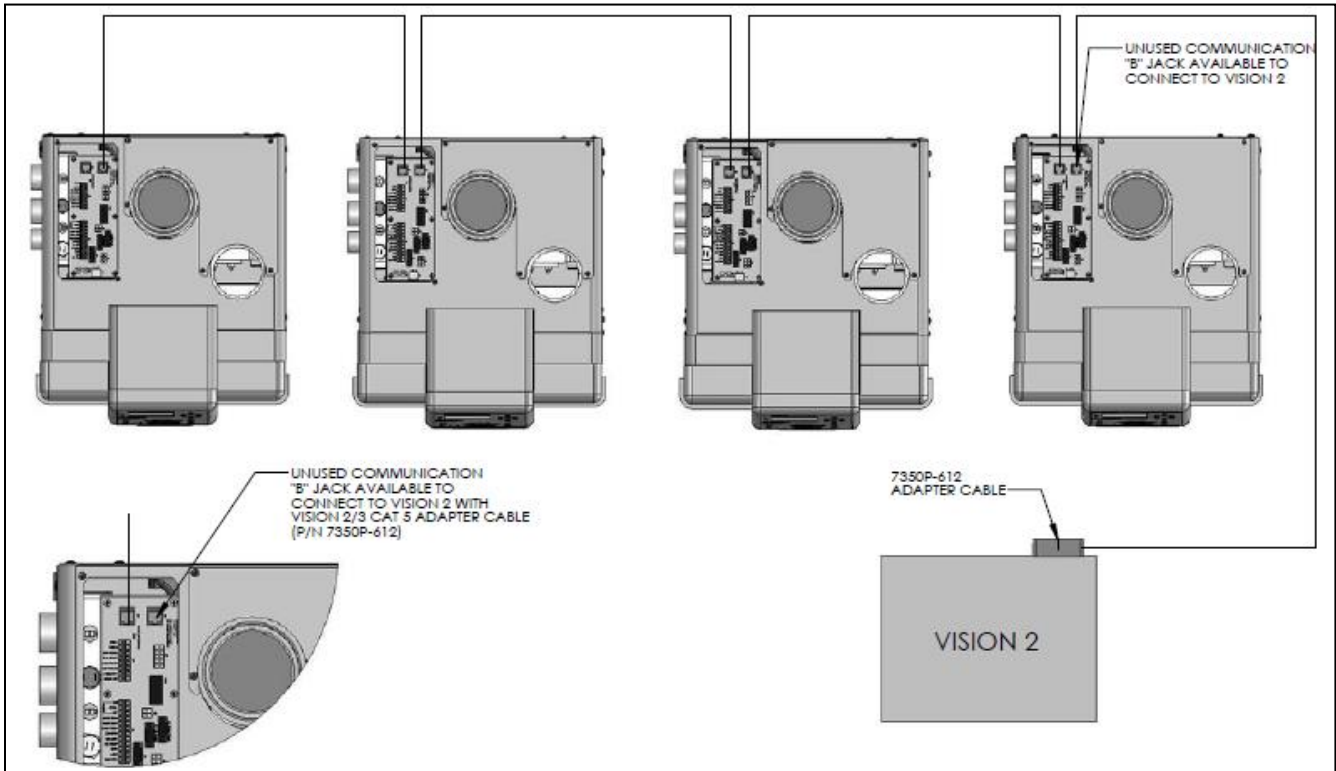

Figure 26 – LP-293-GG
1. A Cascade Bus Termination Plug has been installed on the customer connection board of this boiler. The purpose of this plug is to stabilize communication between multiple boilers and reduce electrical “noise”. See Figures 26 and 27 for Cascade Bus Termination Plug installation detail.